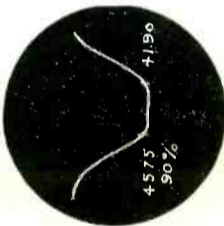

FIG. 1
- Adjust top and bottom of T-11 for marker positions as shown on curve Figure 1.